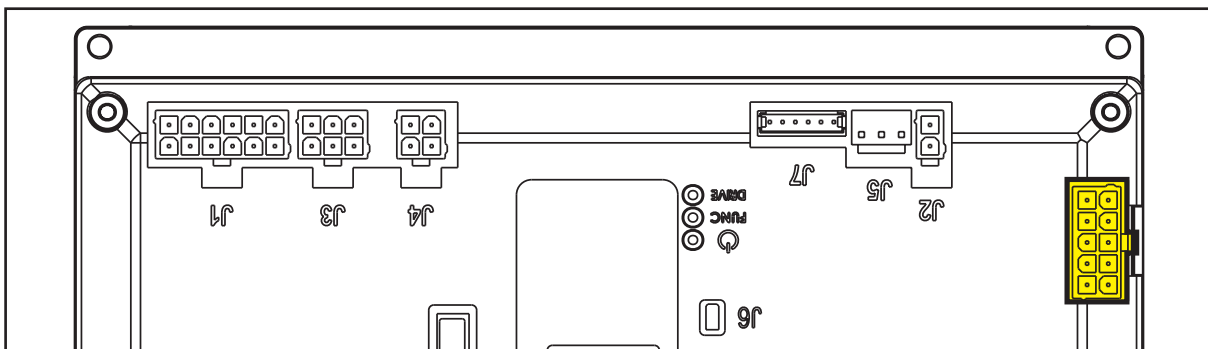

Figure 30
**(Figure 30) J8: TYMOLEX MINIFIT type, 10-ways vertical**